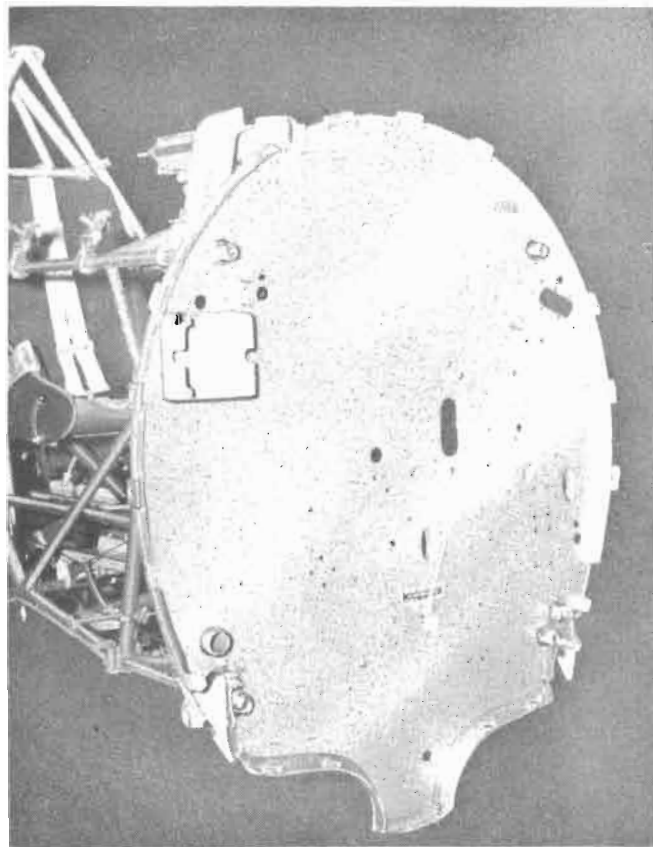

Figure 88 — Fire Wall
(1) FIRE WALL.—(See figure 88.)—The fire wall consists of a single thickness of .019 corrosion-resistant steel sheet, and is provided with an angle about its circumference which is omitted at the lower portion. The fire wall is secured to the forward end of the fuselage frame assembly by means of engine mount attachment fittings and numerous brackets and clamps. Mounted on the forward face of the fire wall is the battery, main power panel box, throttle switch, mixture